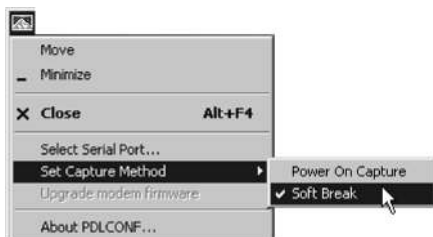

Figure 2-23. PDL Set Capture Method->Soft Break
- From the pop-up menu, click **Set Capture Method->Soft Break** (Figure 2-23).